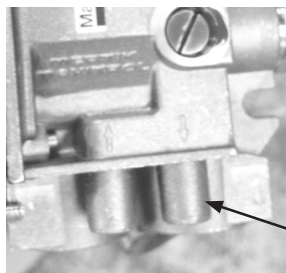

Figure 6.
Step 17: Connect LP gas supply to fireplace. Loosen the screw inside the manifold pressure test port and connect the manometer to the port. See Figure 6.